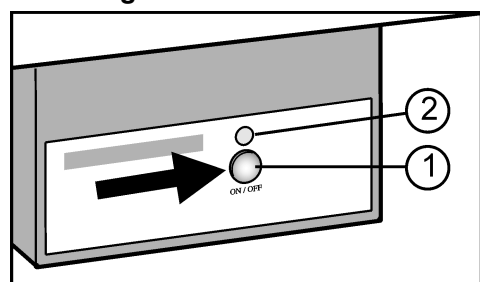

Fig. 6
- Press On/Off button Fig. 6 (1) so that the LED Fig. 6 (2) lights up.